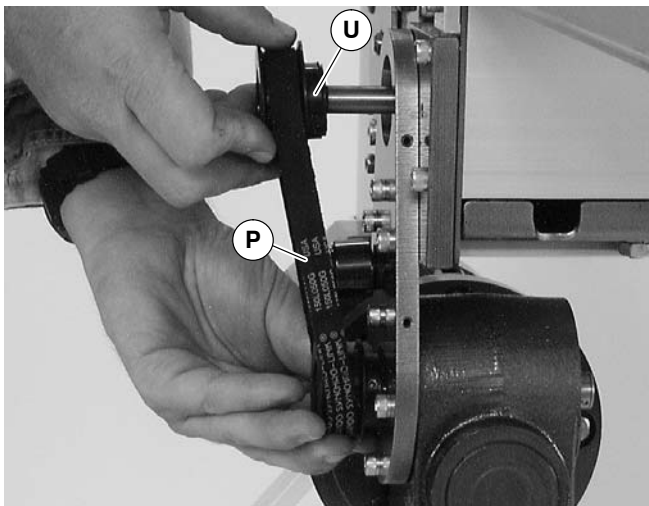

Figure 13
3. Remove timing belt (P of Figure 13).
**NOTE:** If timing belt does not slide over pulley flange, loosen driven pulley set screws (U of Figure 13) and remove pulley with belt (P). For re-installation, see steps 6 and 7 on page 6.